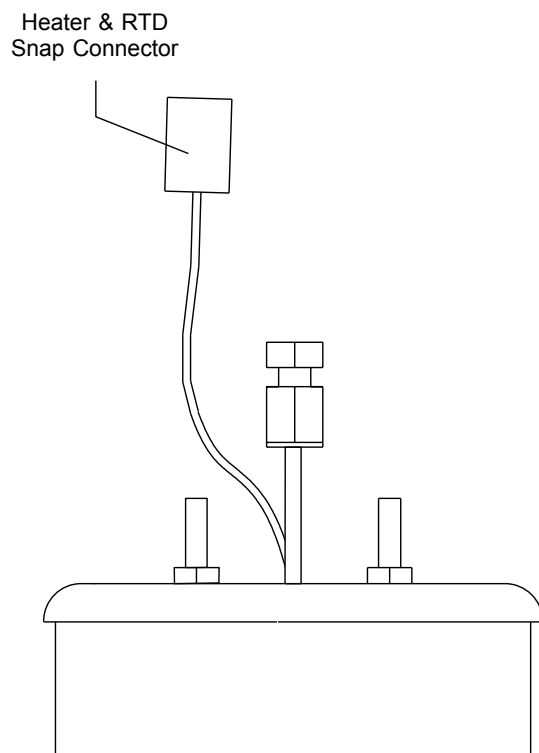

Figure 7-3
- D. Disconnect the oven temperature control line via the white plastic "Snap" connector (Figure 7-3).